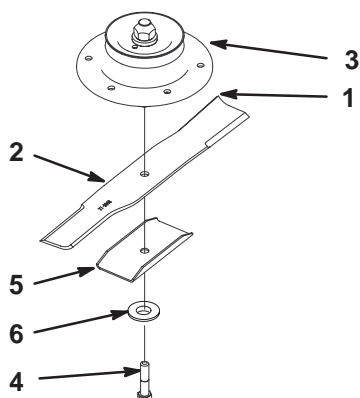
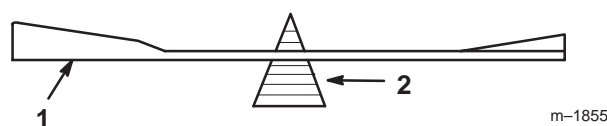

Figure 47
Figure 49
1. Hold the blade end using a rag or thickly-padded glove. Remove the blade bolt, blade stiffener, washer, and blade from the spindle shaft (Fig. 47).
2. Check the balance of the blade by putting it on a blade balancer (Fig. 49). If the blade stays in a horizontal position, the blade is balanced and can be used. If the blade is not balanced, file some metal off the end of the sail area only (Fig. 47). Repeat this procedure until the blade is balanced.
1. Install the blade and blade stiffener onto the spindle shaft (Fig. 47).
Important The sail part of the blade must be pointing upward, toward the inside of the mower to ensure proper cutting (Fig. 47).
2. Install the lock washer and blade bolt (Fig. 47). Torque the blade bolt to 85–110 ft-lb (115–140 N).